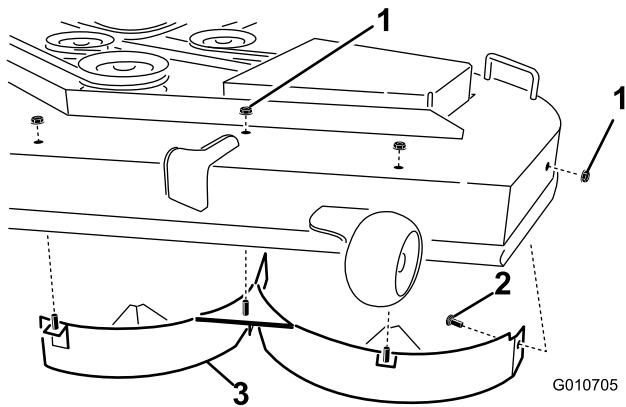

Figure 5
13. Install the left baffle to the mower deck as shown in Figure 5. Use three lock nuts (5/16 inch) to secure the welded posts of the right baffle to the top of the mower deck at the center, left of center and left positions. Hand tighten the fasteners.